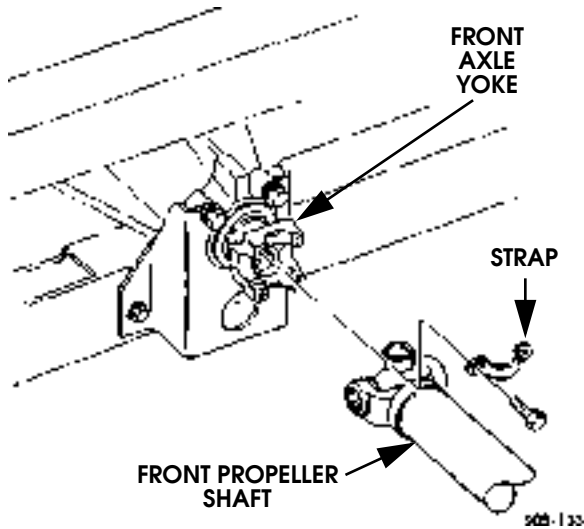

Figure 9-104: Front Propeller Shaft Attachment at Axle
1. Remove U-joint clamp bolts and straps. Then disconnect shaft yoke (Figure 9-104).